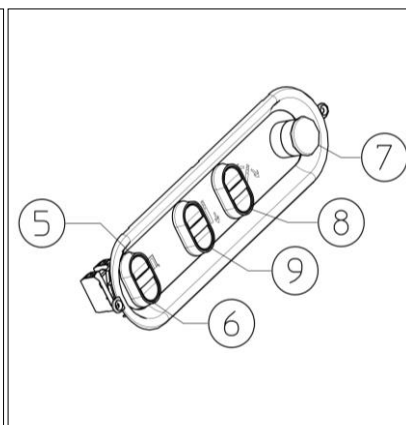
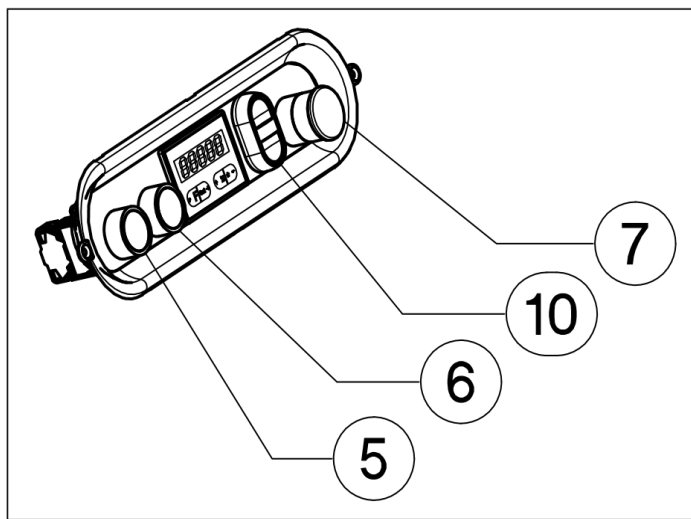

Fig.6 (T110i)
Fig.8 (T120)
- When using automatic star delta (fig 7.8) the direction of the rotation is determined by the switch (fig.6,5/fig.8,5).